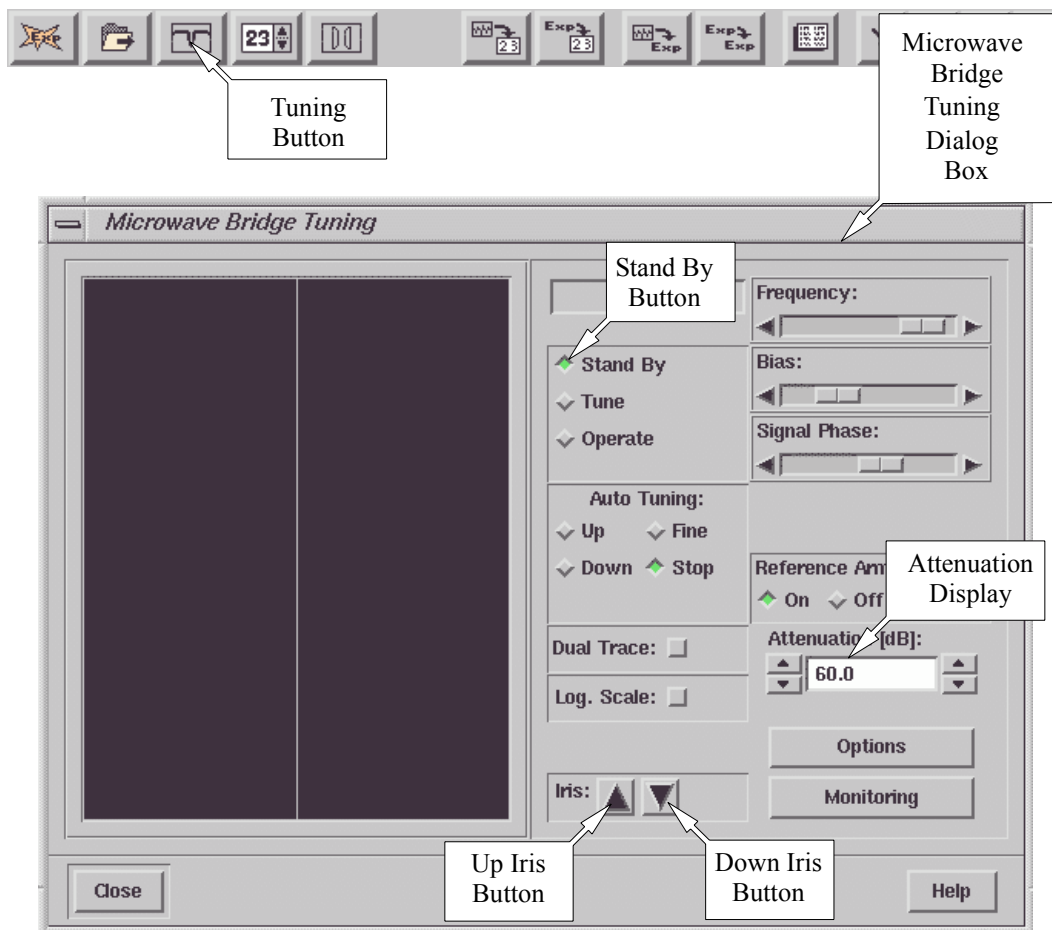

Figure 7-10 The Microwave Bridge Tuning dialog box.
6. **Open the Microwave Bridge Tuning dialog box.** If this window is not already open, click its button in the monitoring panel. The button toggles the dialog box open and closed. The Microwave Bridge Tuning dialog box will then appear. (See Figure 7-10.)
7. **Switch the microwave bridge to Stand By mode.** (See Figure 7-10.) Click the Stand By button in the dialog box to change to the Stand By mode.
The procedure here is like Step 12. performed in reverse. Reposition the iris screw motor. Screw the lock nut on the iris screw. Click and hold the up iris button in the **Microwave Bridge Tuning** dialog box (See Figure 7-10.) until the iris screw is approximately 0.5 to 1 cm. above the top surface of the cavity body.